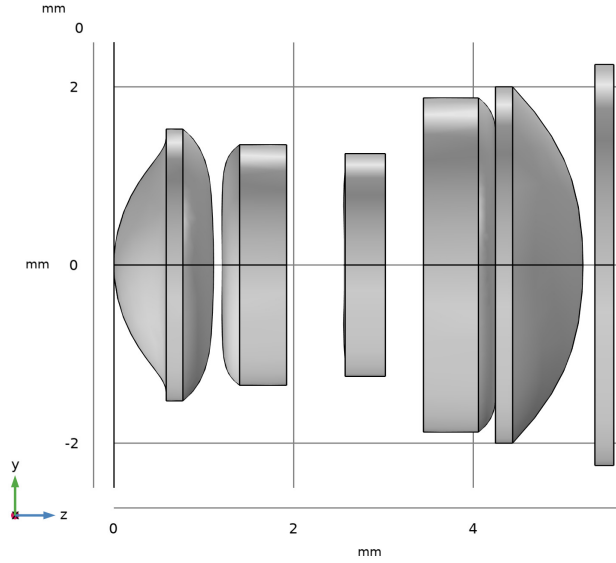
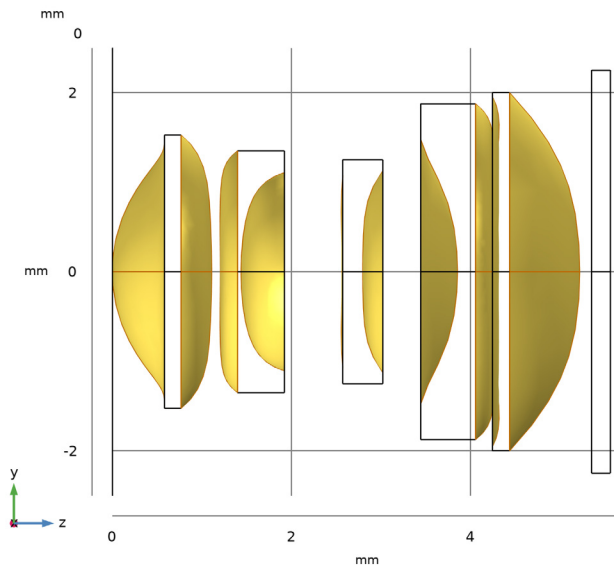
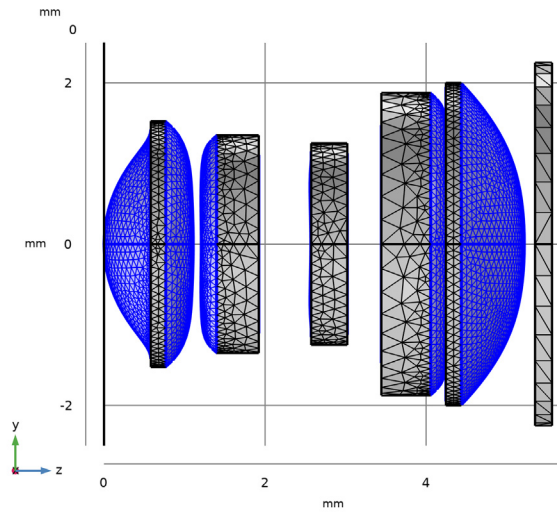
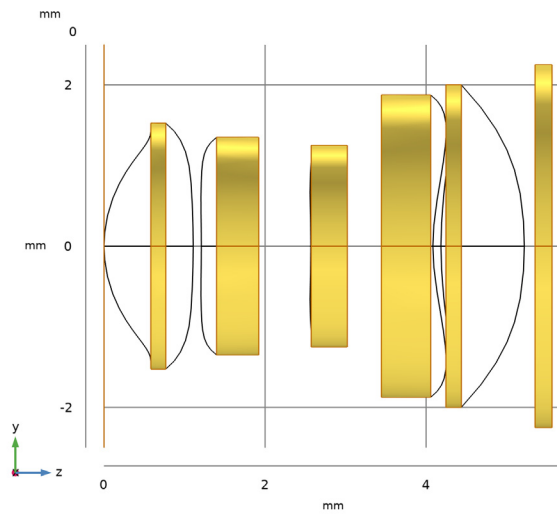

Figure 2: The Compact Camera Module geometry sequence. Instructions for creating the lens geometry can be found in the Appendix.
Figure 3: The Compact Camera Module aspheric surface cumulative selection.
Figure 4: The Compact Camera Module mesh. This view shows the aspheric surfaces on which the mesh has been refined.
Figure 5: The Compact Camera Module obstruction cumulative selection.
The detailed optical prescription is given in Table 1. Instructions for creating the lens geometry sequence (Figure 2) can be found in the Appendix — Geometry Instructions. In addition to the parameters used to define the Compact Camera Module geometry, a set of parameters are required to define the ray tracing model. These are listed in Table 2.
The ray tracing algorithm used by the Geometrical Optics interface computes the refracted ray direction based on a discretized geometry via the underlying finite element mesh. In this model, a cubic geometry shape order is used in order to reduce the discretization error. However, it is sometimes necessary to refine the mesh on certain surfaces in order to further reduce the effects of discretization. The aspheric surfaces of the Compact Camera Module have been assigned to a cumulative selection (Figure 3) on which the mesh has been refined (Figure 4).¹
The Compact Camera Module is assumed to be operating in air at room temperature. The wavelength is set to $\lambda = 587.56 \text{ nm}$ as this is the wavelength at which the refractive indices are specified. Other Geometrical Optics features include the use of cumulative selections to define obstructions (see Figure 5) and the focal surface. A hexapolar grid release is used to launch rays at each of the four field angles. Each release has 25 rings, giving a total of 1951 rays per field angle. Detailed instructions for creating this model can be found in Modeling Instructions.
- 8 In the **Graphics** window toolbar, click ▼ next to  **Go to Default View**, then choose **Go to ZY View**. Orient the view to place the optical axis (z-axis) horizontal and the y-axis vertical. Compare the resulting geometry to Figure 2. The **Cumulative Selections** defining the aspheric surfaces and obstructions can be seen in Figure 3 and Figure 5 respectively.